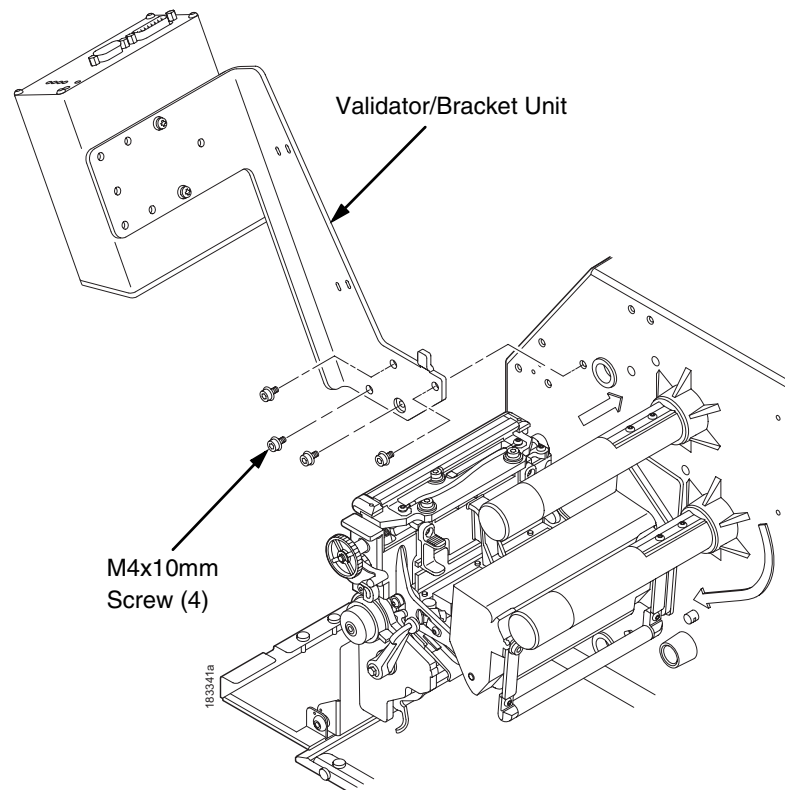

Figure 14. Attaching the Validator/Bracket Unit to the Printer
4. Using four M4x10mm screws, attach the validator/bracket unit to the printer frame as shown in Figure 14.